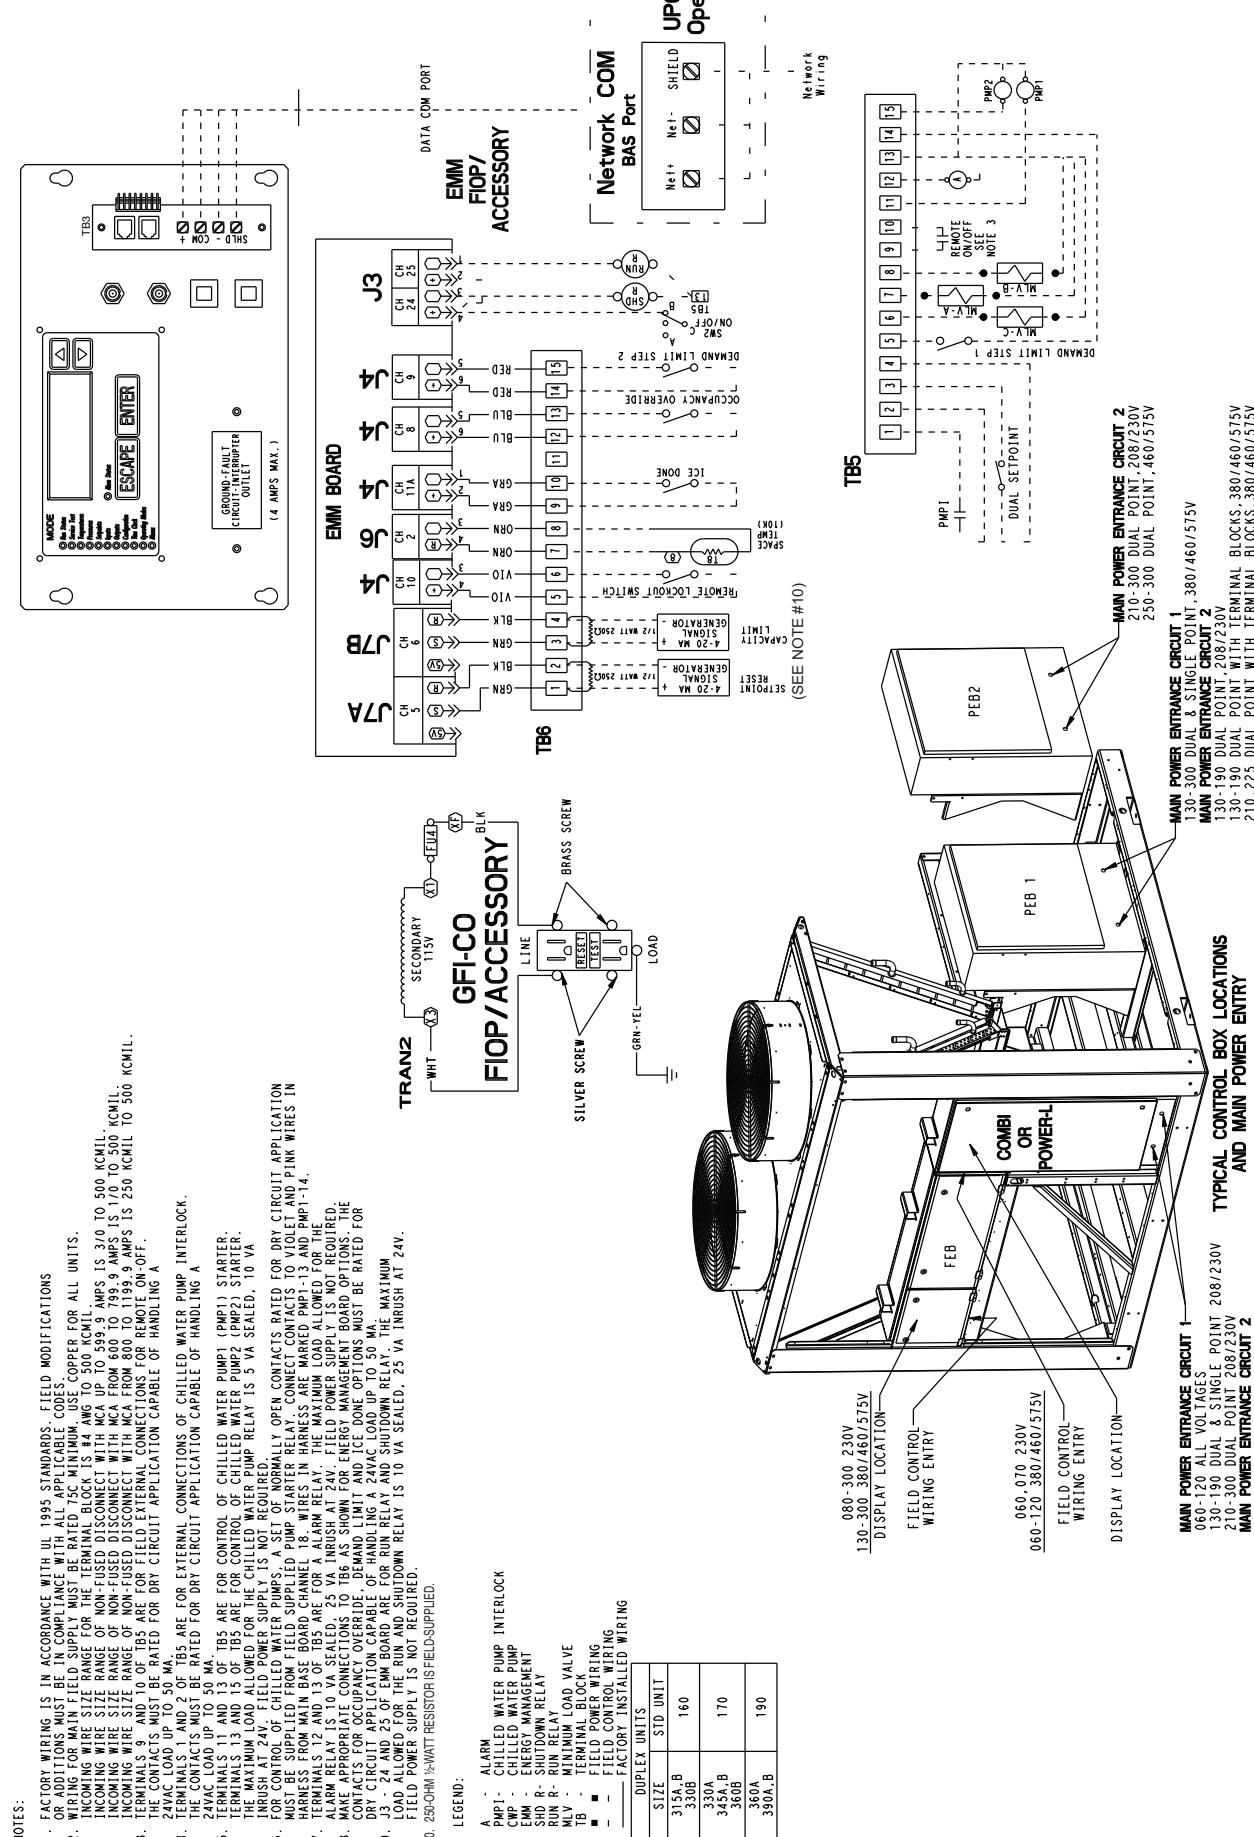

Fig. 58 — Control and Power Wiring Schematic, 30RB06-390
1. "Combination" is identified as COMB1 in Fig. 58.
2. "Power-L" is the same as COMB1 in Fig. 58.
3. "PEB" or Power Electrical Box is shown in Fig. 58.